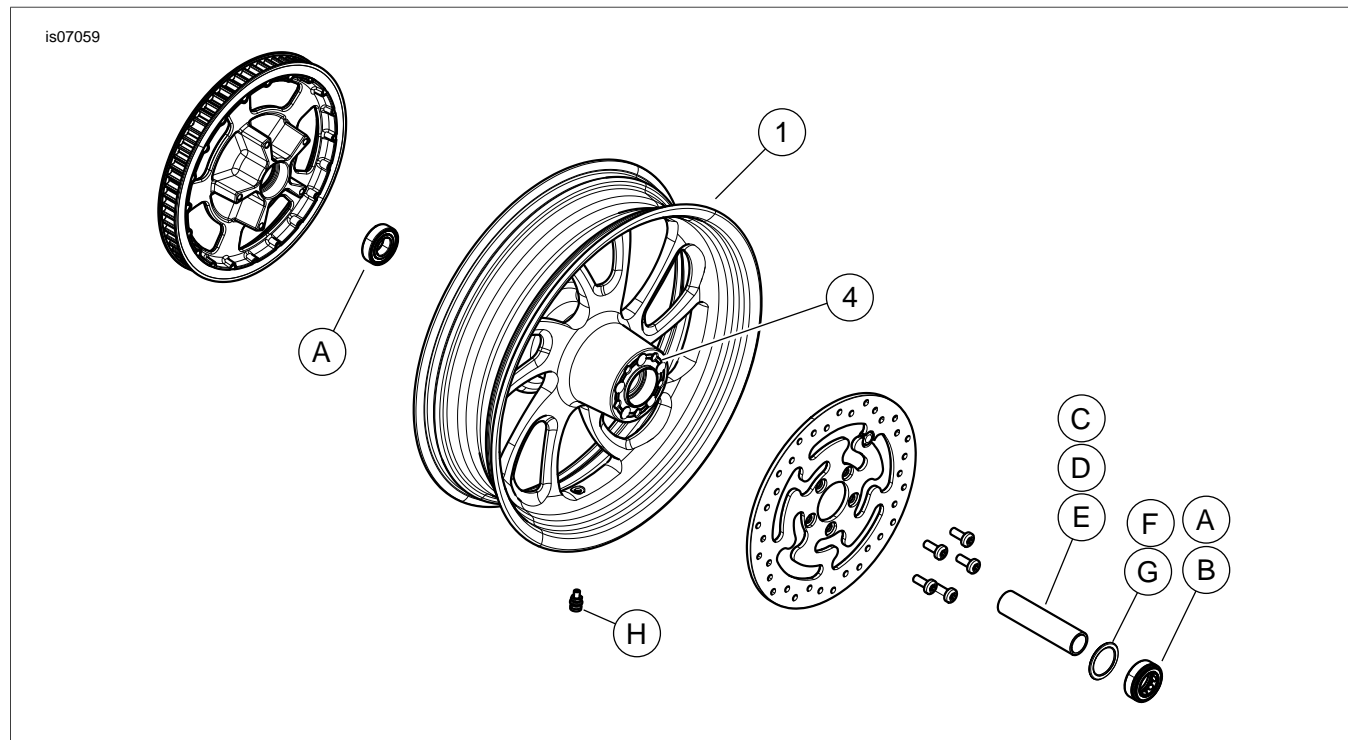

Figure 1. Service Parts: Rear Blade Wheels
See Figure 1 and Service Parts Tables.
2. See Figure 1. Install valve stem assembly (H) on wheel. Refer to the service manual.